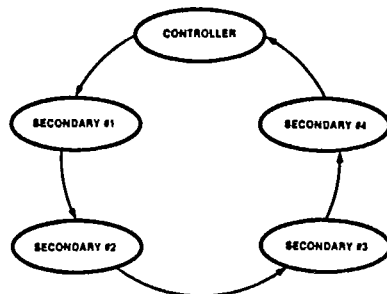

Figure 5. An SDLC Loop
**SDLC Loop Mode.** The SCC supports SDLC Loop mode in addition to normal SDLC. In an SDLC Loop, there is a primary controller station that manages the message traffic flow on the loop and any number of secondary stations. In SDLC Loop mode, the SCC performs the functions of a secondary station while an SCC operating in regular SDLC mode can act as a controller (Figure 5).